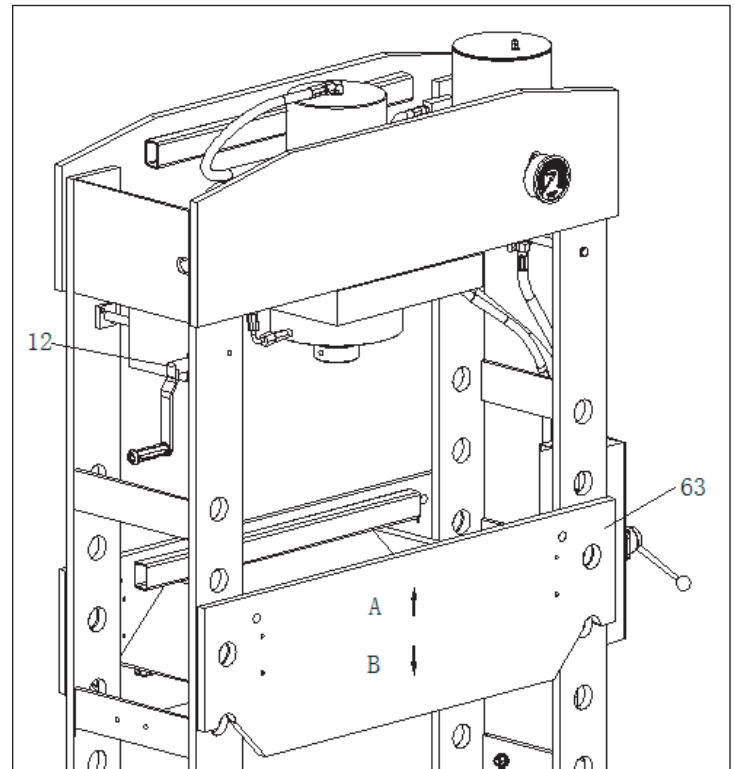

Fig. 13
- Assemble the handle (12) to hand wrench.
- Turn the handle (12) clockwise, then the bed frame (63) will move up (A).
- Turn the handle (12) anticlockwise, the bed frame (63) will move down (B) (refer to Fig. 13).